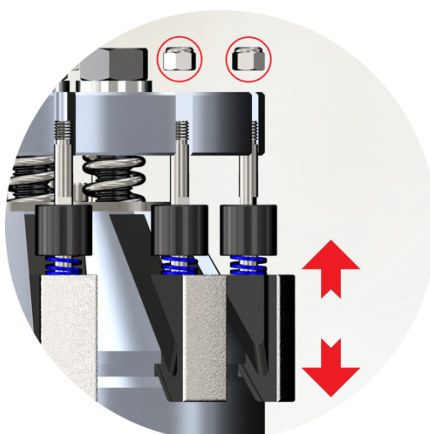

Figure 7:
- a. For GripSafe models equipped with the Wedge Gripper Pre-Setter (Figure 7), ensure the Spring Plate is in the "Retracted" position, and remove each of the Wedge Gripper Nuts (circled in red). Slide each Wedge Gripper along its slot to verify free and smooth motion. If any component appears compromised, STOP and replace it immediately.